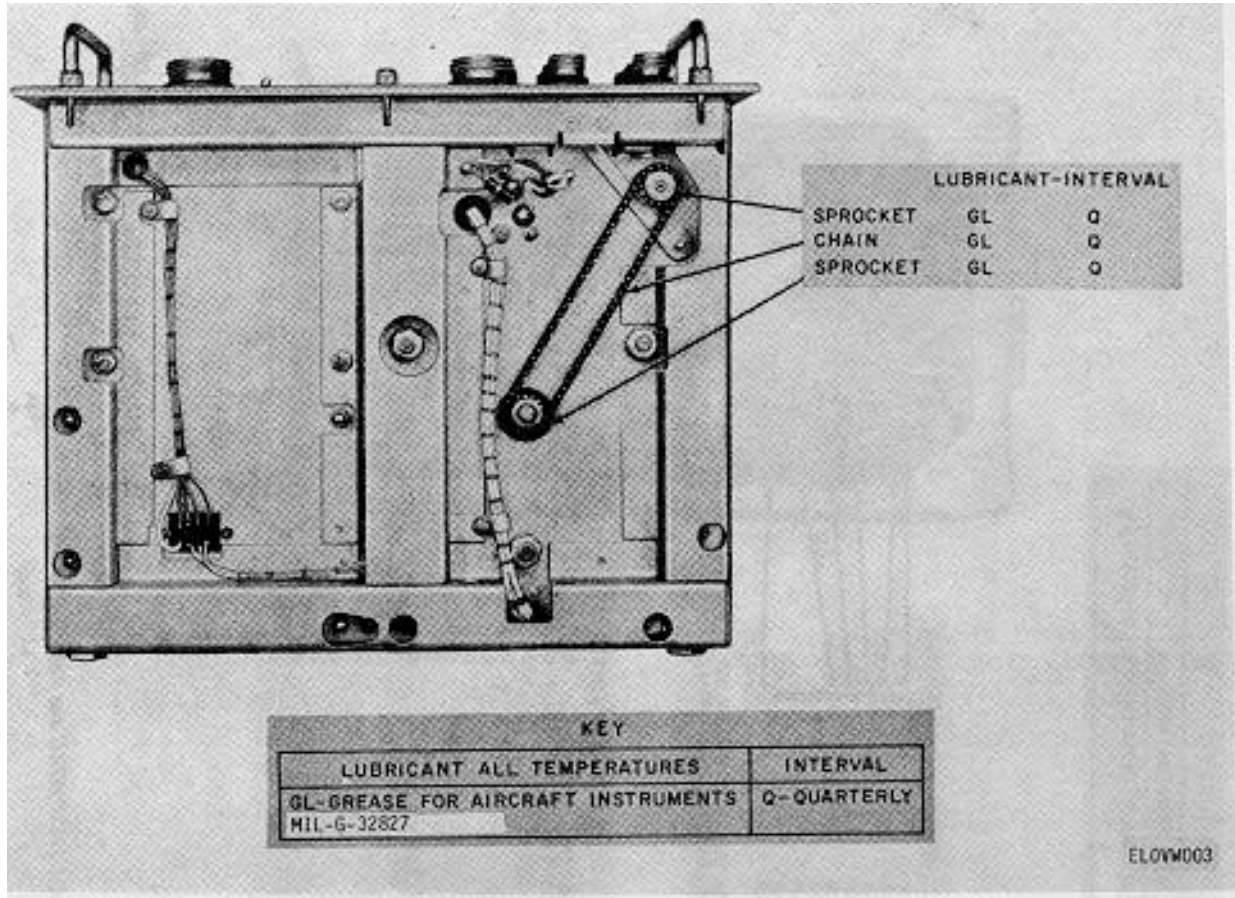

Figure 5-3. Regulator, Voltage CN-514/GRC, lubrication points.
c. Regulator, Voltage CN-514/GRC Loosen the mounting screws that attach the CN-514/GRC to the component case and remove the CN-514/GRC from the component case. Clean the sprockets and the chain with a brush dipped in cleaning compound (fig. 5-3). Apply a light film of grease (GL) to the sprockets and chain with a clean brush.